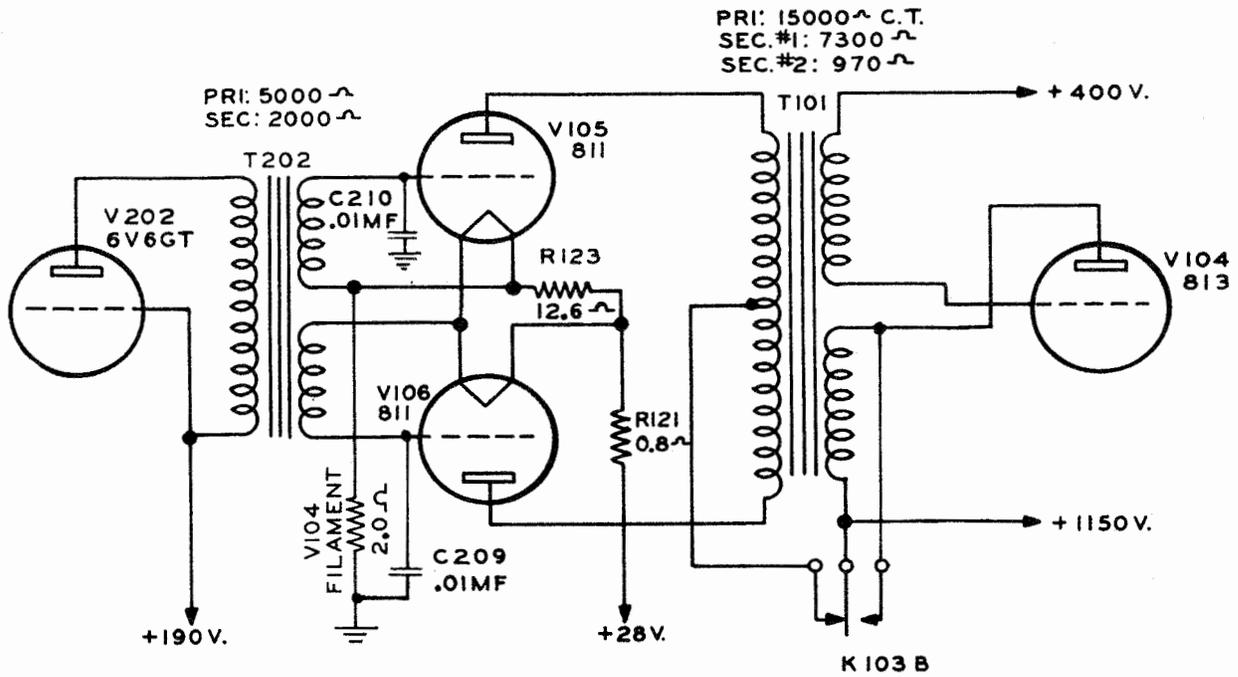

Fig. 17 Modulator Circuits (Dwg. No. 500 0223 00A)
2.7.3.1. The modulator employs two Type 811 high mu triodes connected in push-pull, and operating Class B. Refer to Figure 17. The modulators are capable of modulating the carrier (100 watts nominal) at least 90% with full voltage applied to the power amplifier. While the 811 is essentially a zero bias tube when used with plate voltages as high as 1150 volts d.c., it becomes necessary to apply some bias to the grid of the tube to keep the static plate current at a safe value. In this application the bias is obtained from the 28 volt d-c supply by utilizing the average voltage drop through the filaments of the tubes to obtain equal voltage for application to the grids of both modulator tubes. The output of the modulators is coupled to the r-f circuits by modulation transformer T101. Both the screen and plate of the power amplifier tube, V104, are modulated. The full output voltage of 1150 volts d.c., is applied to the plates of the modulator tubes, V105 and V106. Relay contacts K103B remove plate